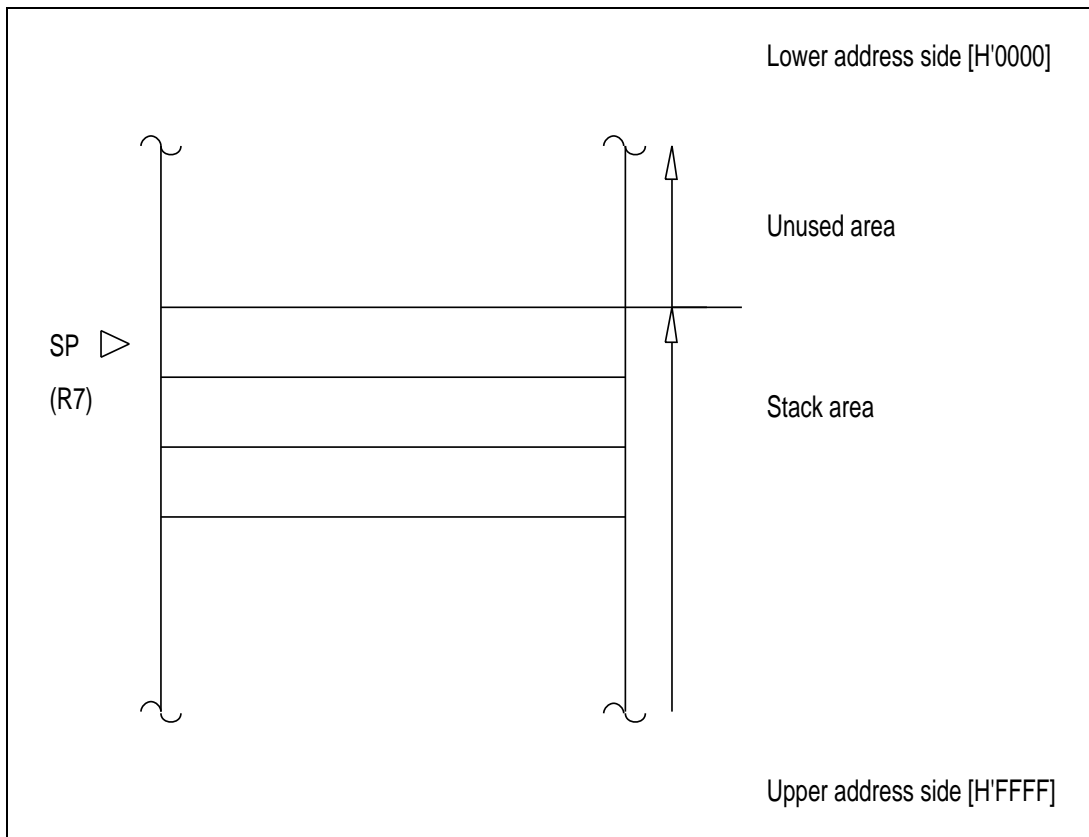

Figure 2-2 Stack Pointer
R7 also functions as the stack pointer (SP), used implicitly by hardware in exception processing and subroutine calls. When it functions as the stack pointer, as indicated in figure 2-2 SP (R7) points to the top of the stack.